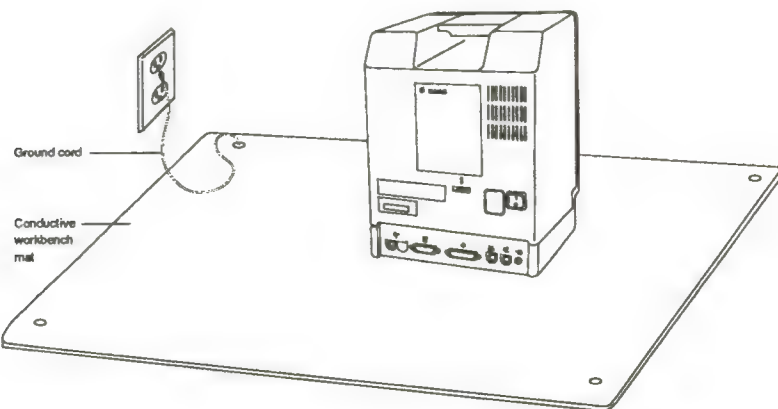

Figure 2. Grounding the workbench mat.
3. Lay out the conductive workbench mat. Use the ground cord to connect the mat to earth ground or to a building ground. Connecting the ground cord to the wall outlet box, as shown in Figure 2, is usually adequate, but to be certain about how to ground the mat, check with an electrician.